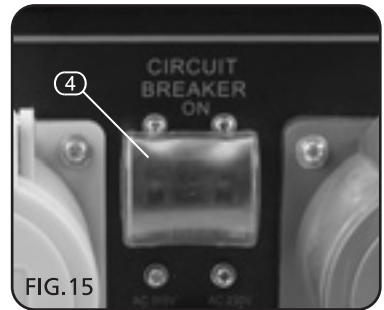

FIG.15
Ensure circuit breaker is in 'ON' position (Fig.15).
9.8 AC CIRCUIT BREAKERS - FIG.15